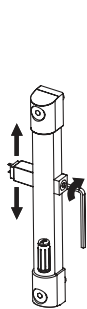

Fig.6
- Install the indicator on the reservoir using the spacers included in the supply (necessary in case of reservoir made out of ferromagnetic material in order to avoid interaction between the magnet and the metal mass (Fig.6).